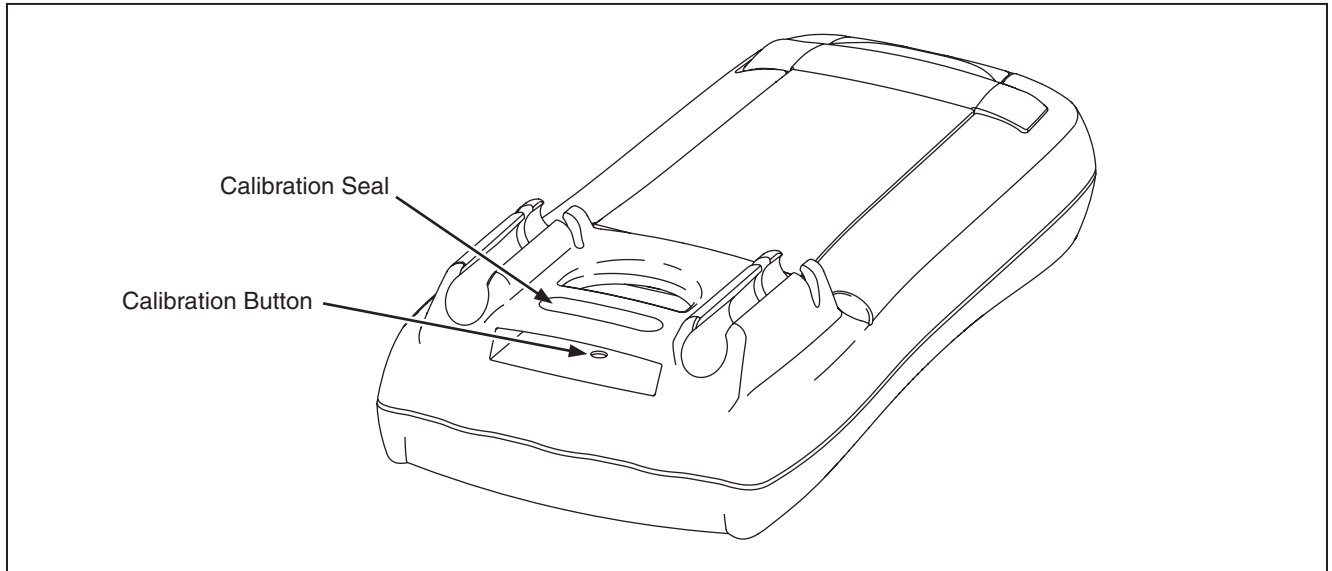

Figure 4. Calibration Access
1. Turn the Meter over and find the Calibration Seal located near the top of the Meter (refer to Figure 4).